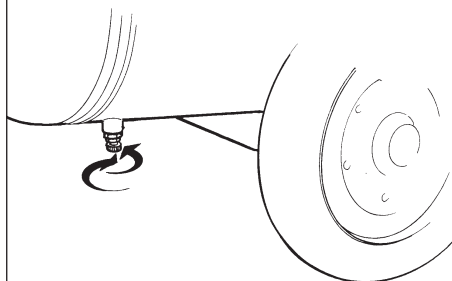

fig. 2
- check that the condensation outflow tap under the tank is closed (*fig. 2*);
■ **Let the tank circuit pressure out by opening the condensation outflow tap before dismantling the pneumatic circuit (fig. 2). Unscrew carefully, so as to let out the air slowly. Watch the manometer to make sure that there is no pressure in the air circuit.**